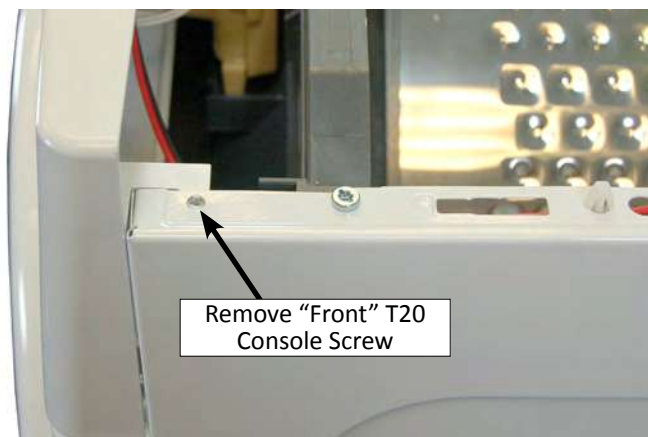

Figure 2
6. Remove the "front" T20 Torx screws located on the top-front, right-side panel (see Figure 2).